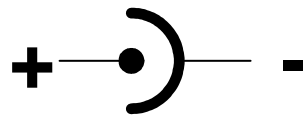

figure 14: Polarity of the DC-Adaptor
- Use only DC power-supplies, which conform to protection class 2 VDE0551. Pay attention to a correct polarity of the power supply (s. figure 14).
Check the polarity of the power supply (see figure 14). Did you choose the right voltage range? The minimum and optimal input voltage is 7.5V DC. If you work with a 32/0 channel setting a power supply of 9V is recommended.